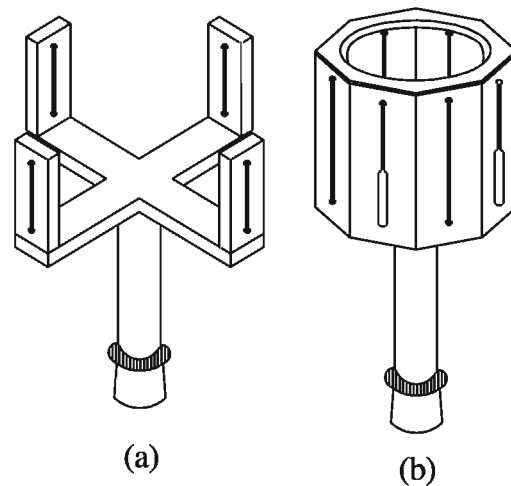

Fig. 6.4 VARIOUS FORMS OF CROSS STAFF
- a. **OPEN CROSS STAFF:** The simplest form of cross staff is the open cross staff shown in fig 6.4(a). It consists of two pairs of vertical slits providing two lines of sight mutually at right angles. Each pair consists of 2 vanes, one is eye vane and other is objective vane.
The base carries a brass socket so that it may be fitted on the pointed staff when the instrument is to be used. Fig 6.4(b).